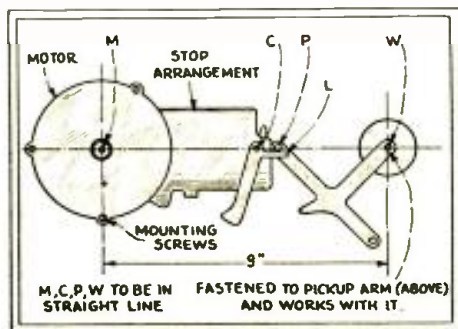

Fig. 6
table's spindle to the center of the mounting screw of the pickup arm. This should be exactly 9 inches; and the measurement must be made accurately, for a discrepancy of a fraction of an inch will cause one of the complaints above mentioned. To permit of adjustment, the mounting holes for all parts have purposely been made large. It will be necessary to check the alignment of the centers of lever arms and motors; these must be in a straight line—(M), (C), (P), (W) (See Fig. 6.) Loosen the screws, bring the points into a straight line and see that the centers of (M) and (W) are exactly 9.00 inches apart. It is important that the pin (P) shall slide freely along the long edge of the lever (L). The screws may then be tightened, and the motor board replaced and reconnected.